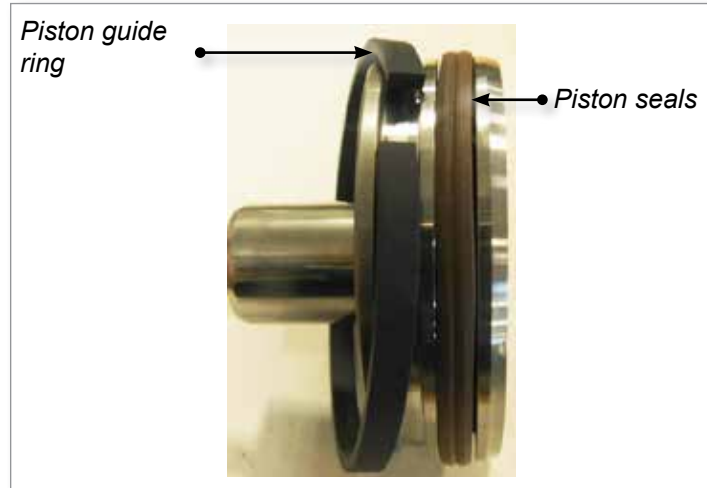

Figure 4-22 Install piston seals and guide ring
3. Install the two piston seals and the piston guide ring. See Figure 4-22.